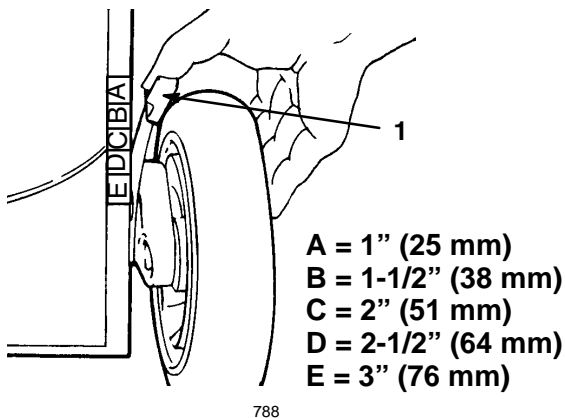

Figure 16
3. Squeeze the lawn mower's height-of-cut lever toward the wheel and move it to the corresponding letter on the lawn mower housing (Fig. 16).